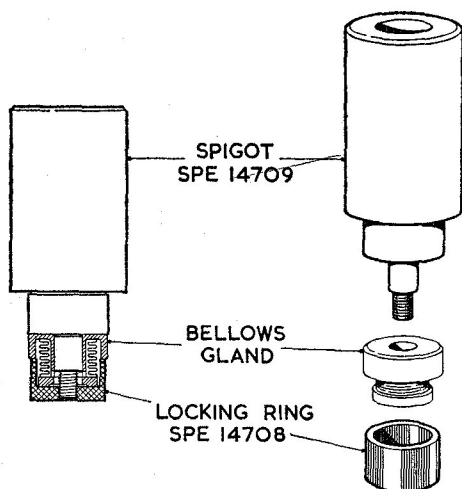

Fig. 7. Tools for pre-assembling the bellows gland
(8) Pump casting sub-assembly.
(a) Place a new metallic bellows gland (112) in the fixture illustration in App. 1, Fig. 7. Secure with the locking ring (SPE. 14708).
- (1) Assembling the drive-end motor casing.
- (2) Assembling the commutator-end bearing.
- (3) Assembling the commutator-end motor casing.
- (4) Assembling the motor end casing sub-assemblies.
- (5) Pre-bedding the brushes.
- (6) Determining the brush gear geometric neutral axis.
- (7) Retarding the brush gear.
- (8) Pump casting sub-assembly.
- (a) Place a new metallic bellows gland (112, app. 1, fig. 3) in the fixture illustrated in App. 1, Fig. 7. Secure with the locking ring (SPE. 14708).